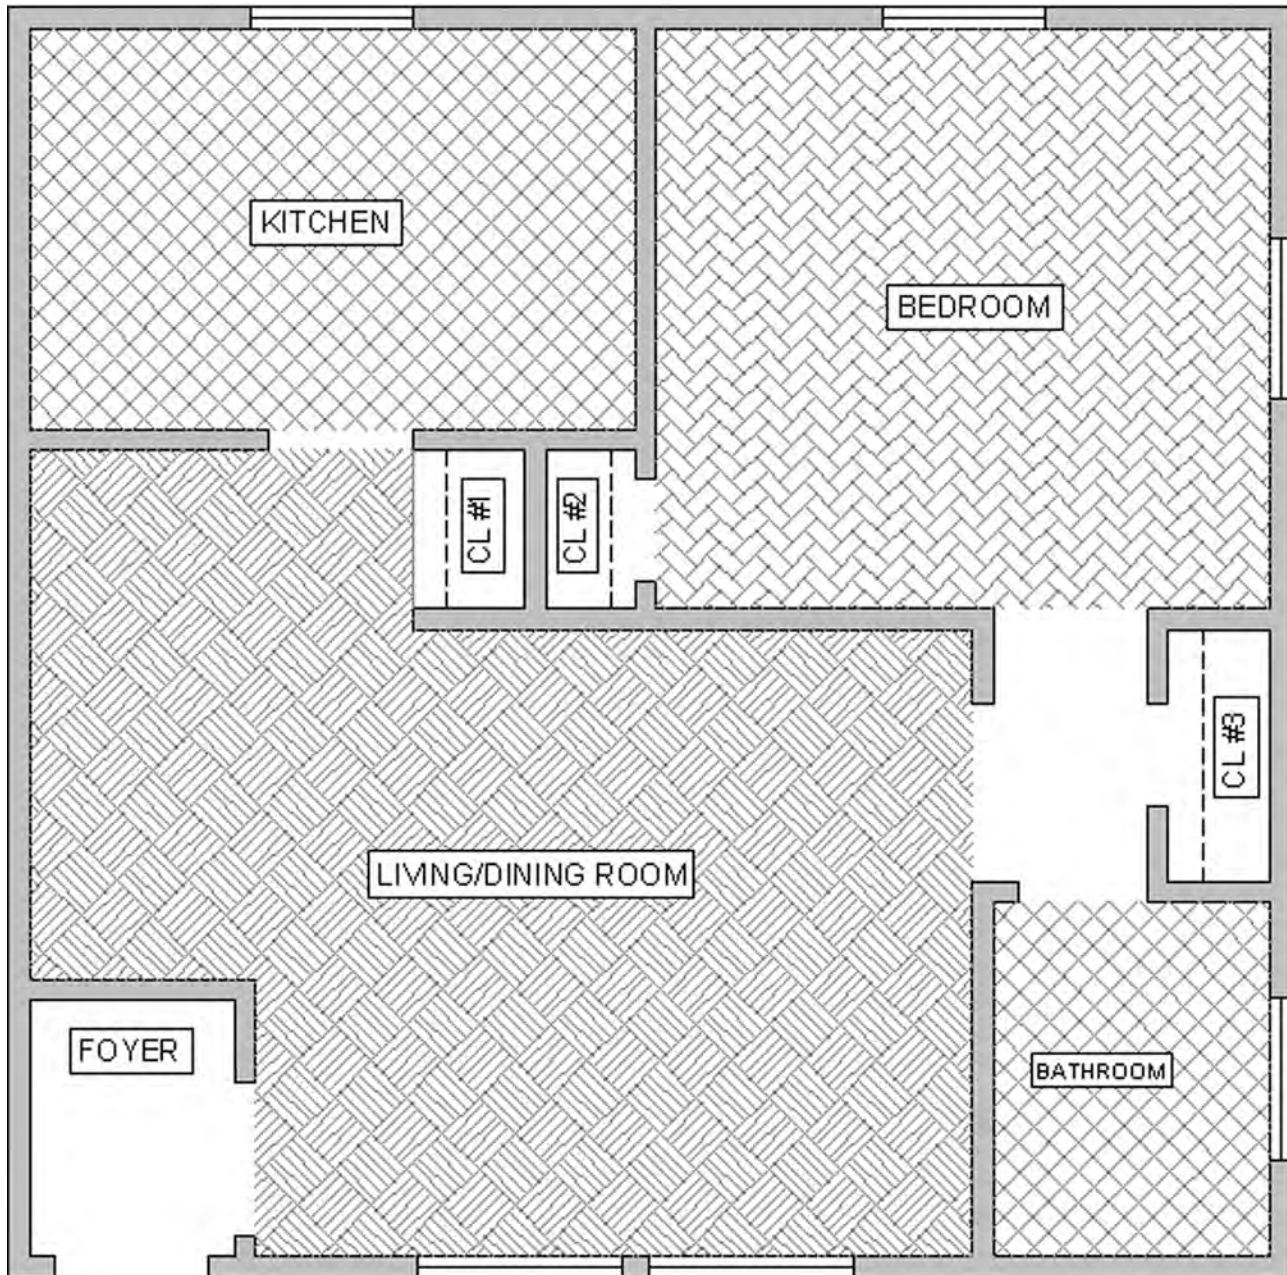

FIGURE 5.19
To fill in the apartment walls, freeze everything except the A-Walls and the Hatch layer. Then, use the solid fill, color Gray 9, as described earlier. If you created everything properly, there should be no gaps or breaks in the wall islands. Check to make sure the windows are drawn correctly, meaning the wall has to have an actual closed gap, into which the window is inserted. Figure 5.18 shows what everything should look like prior to wall hatching (1) and right after (2). One possible approach to hatching the apartment is shown in Figure 5.19.